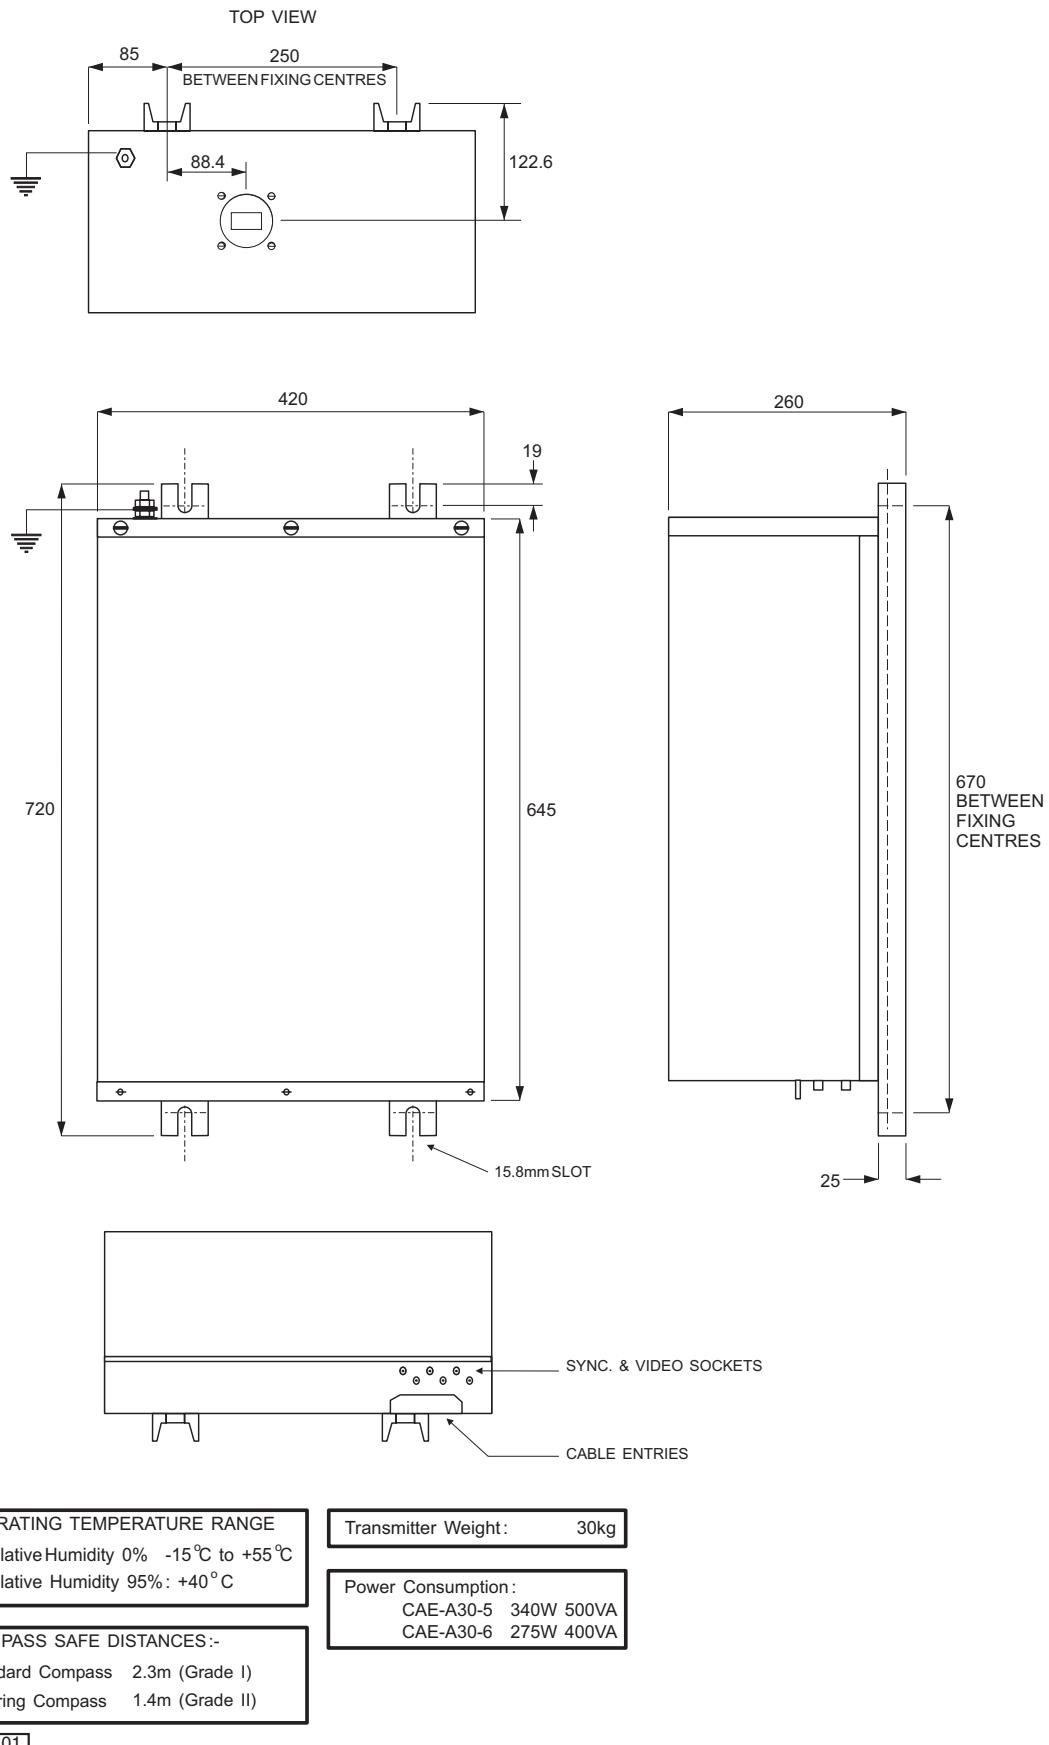

Figure 4f - Downmast Transceiver (CTX-A8): Installation Dimensions
- 31 Fit the transceiver to the securing bulkhead using the installation bolts supplied with the fitting kit. Refer to Figure 4f for dimensions.